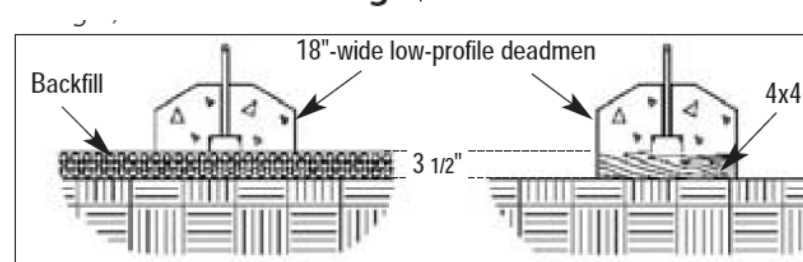

Figure 2-3
2.4.3. IF XERXES 18-INCH WIDE LOW-PROFILE DEADMEN ARE USED AS A CONSTRUCTION GUIDE, THEY MAY NEED TO BE ELEVATED. THIS CAN BE ACCOMPLISHED BY PUTTING 3-1/2 INCH OF BACKFILL OR A WOOD 4X4 (OR EQUIVALENT) UNDERNEATH, SO THAT THE TOP OF THE DEADMEN ARE 12 INCHES OFF OF THE BOTTOM OF THE EXCAVATION. (SEE FIGURE 2-3.)